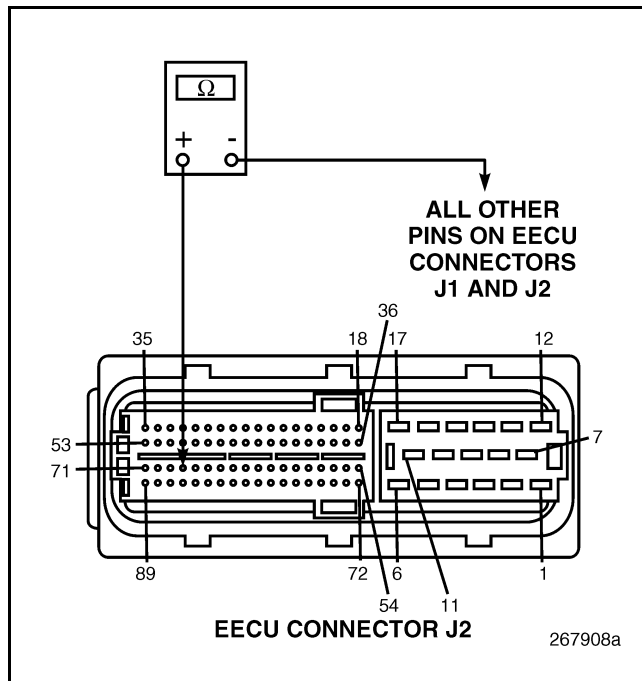

Figure 90
4. Check for continuity between EECU harness connector J2 pin 68 and all other pins on EECU connectors J1 and J2 (see Figure 90).